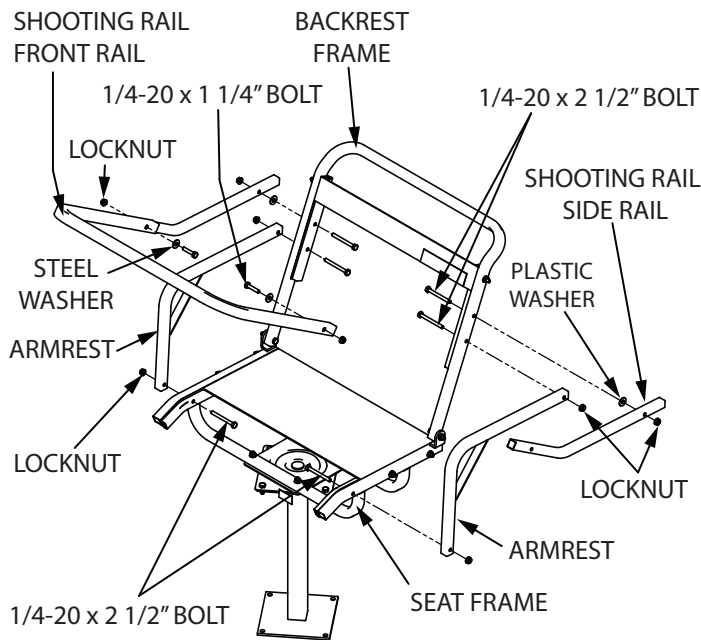

FIGURE 8
9. Attach the (2) armrests (17635) to the seat frame and backrest frame using (4) provided 1/4-20 x 2-1/2" bolts and locknuts. **SEE FIGURE 8**
10. Using the longer end, attach the (2) shooting rail side rails (TP142) to the backrest frame using (2) provided 1/4-20 x 2-1/2" bolts, locknuts and plastic washers. **SEE FIGURE 8**
11. Attach the shooting rail front rail to the shooting rail side rails using (2) provided 1/4-20 x 1-1/4" bolts, lock nuts and steel washers. Side rails should be inserted into the front rail and bolts should go through both rails. **You must now tighten all nut and bolt combinations securely; DO NOT CRUSH TUBING WHEN TIGHTENING! SEE FIGURE 8**